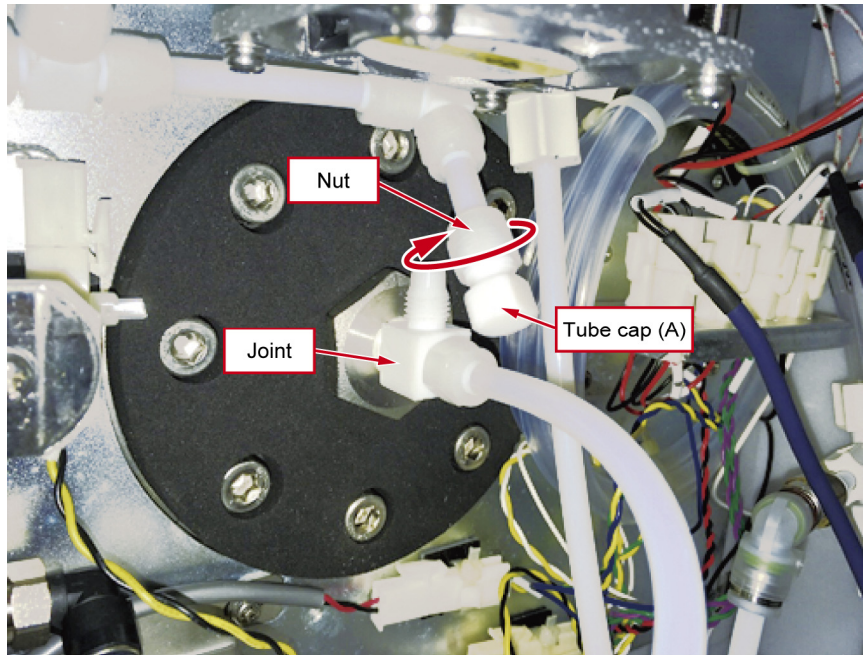

Fig. 7-7 Connect the tube cap (A) to the filter side line
2. After 10 minutes, remove the tube cap (A) shown in Fig. 7-7.